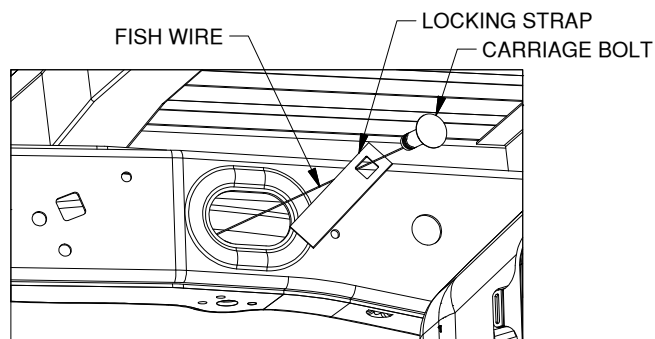

Figure C3: View under bed looking at inside of driver side frame.
- 2. Thread fish wire through frame.** Insert the coil end of the fish wire into the 1" hole and pass it through the frame out the access hole. Thread the locking strap onto the fish wire and attach the coil end of the hardware to the carriage bolt, see Figure C3. Push the hardware into the frame. Pull the fish wire until the carriage bolt is through the frame, leave the fish wire attached to the carriage bolt. Repeat with the 7/8" hole.